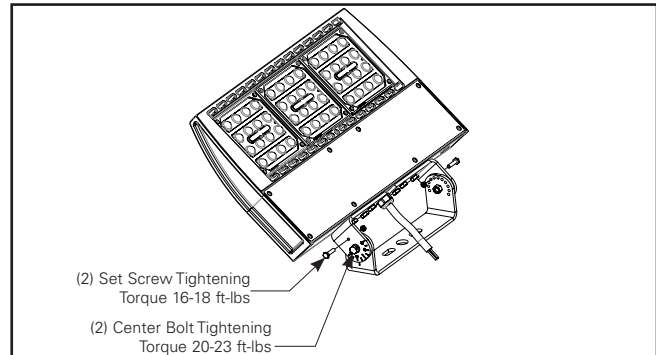

Figure 2.
- 1a. For 1 light square luminaires, use (2) 3/8 - 16 flange bolts (long enough to go through the trunnion arm and the mounting structure). Use nuts to secure bolts where applicable. Torque to 30 ft-lbs.
- 1b. For 2-6 light square luminaires, use (2) 1/2 - 13 flange bolts (long enough to go through the trunnion arm and the mounting structure). Use nuts to secure bolts where applicable. Torque to 40 ft-lbs.
2. Remove (2) set screws and nuts. Save hardware (Figure 2).
3. Loosen but do not remove (2) center bolts (Figure 2).
5. Tighten set screws and nut to 16-18 in-lb (Figure 2).
6. Tighten center bolts to 20-23 ft-lbs (Figure 2).